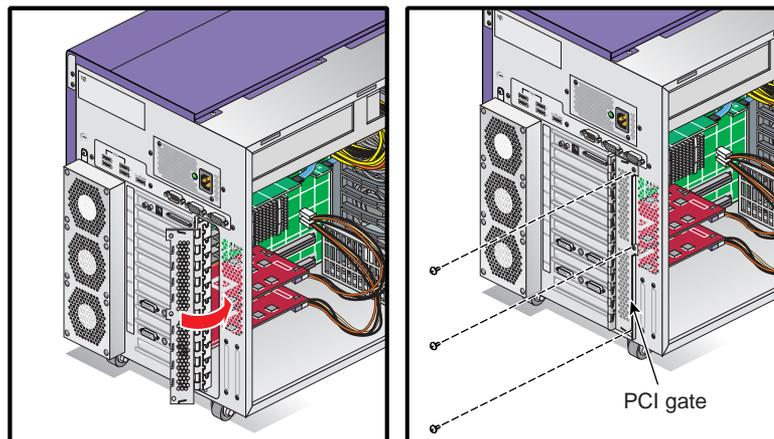

Figure 3-22 Closing the PCI Gate
6. Ensure that the base I/O board is properly aligned in the PCI gate. Then close the gate and install the three screws that secure it to the enclosure (see Figure 3-22).